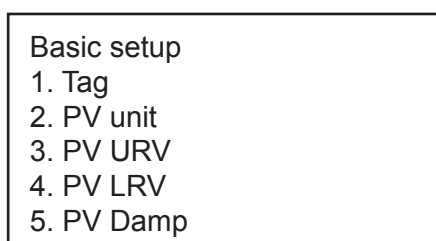

Figure 7-5 Basic setup menu
2. Select “3. Basic setup” from the menu and then the basic setup menu will be displayed. (Figure 7-5)